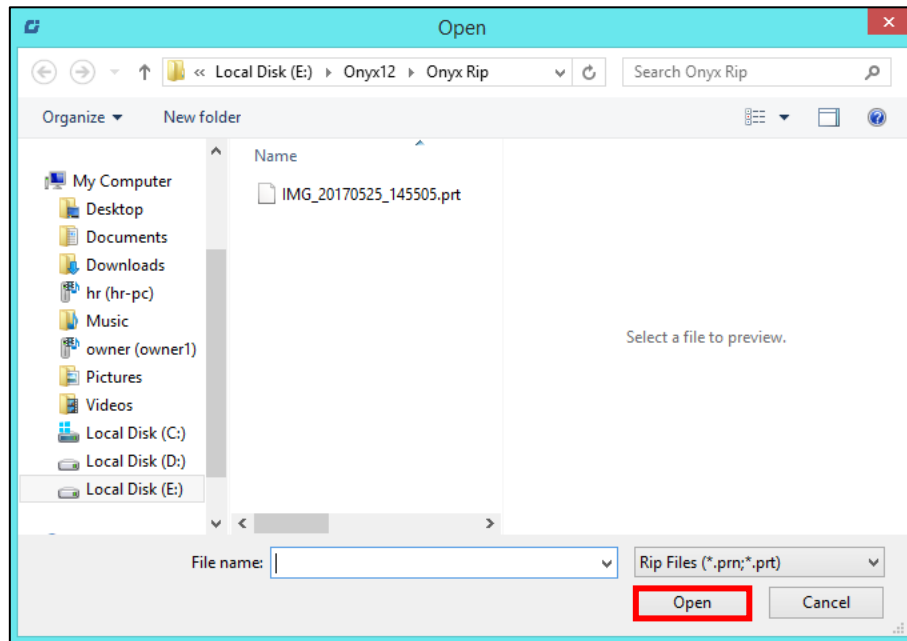

Fig 36: Adding the Job
Step 2: Navigate to the location where the image file with extension **".prt"** and **".prn"** is stored (Refer to Fig 36).